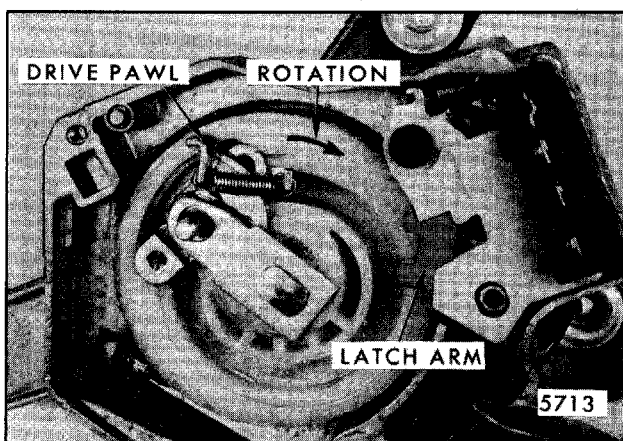

Fig. 2-80-Gear in Normal Run Position
1. The gearbox relay coil circuit is opened allowing the spring-loaded relay latch arm to move out into the path of the gear mechanism (Fig. 2-80).